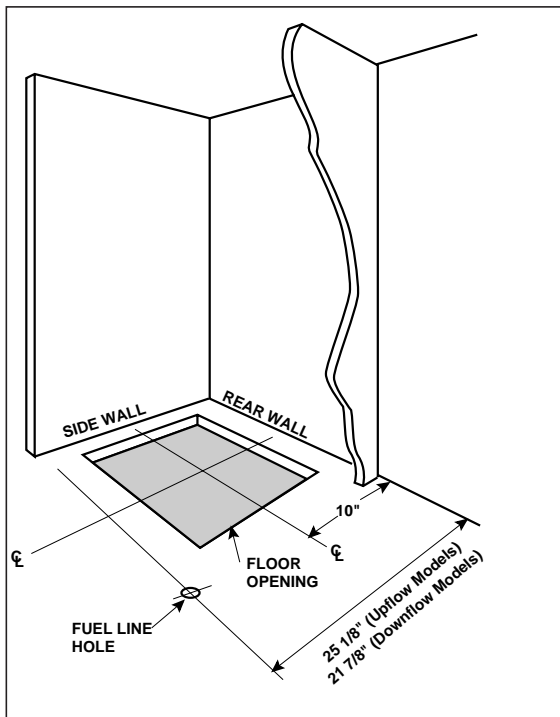

Figure 7. Closet or Alcove Floor Cut-Out
- Determine center of closet or alcove (Figure 7).